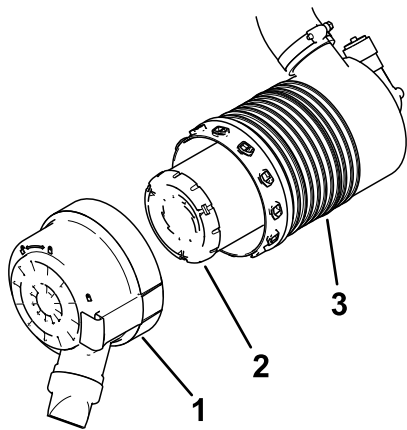

Figure 39
5. Install the air-cleaner cover with the dust cap oriented downward as shown in Figure 39 and secure the latches.